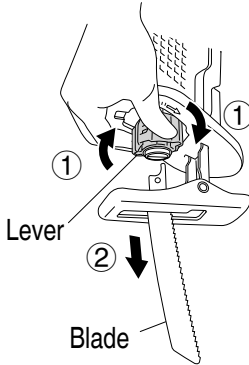
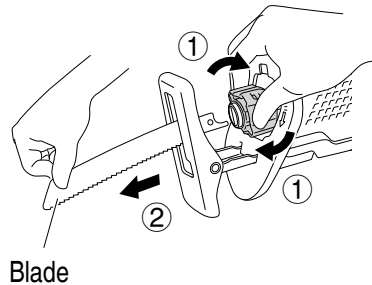

Fig. 4
Fig. 5
- (1) After pivoting the lever, point the blade downward. The blade should fall out on its own. If the blade fails to fall out, pull it out by hand. (**Fig. 4, Fig. 5**)